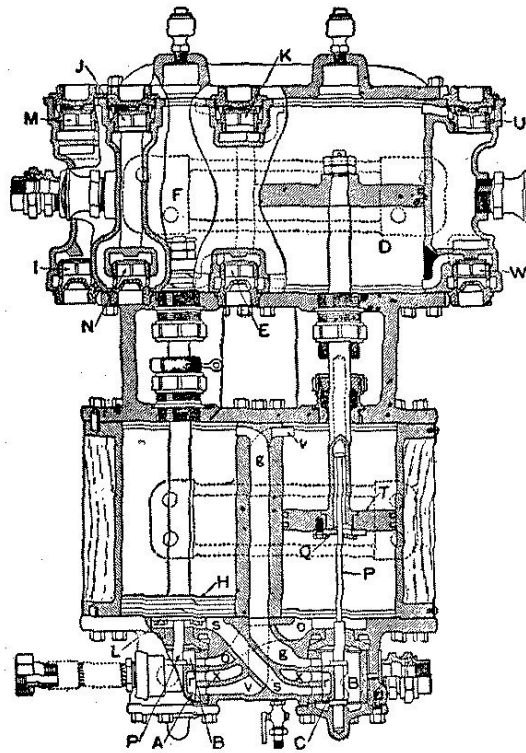
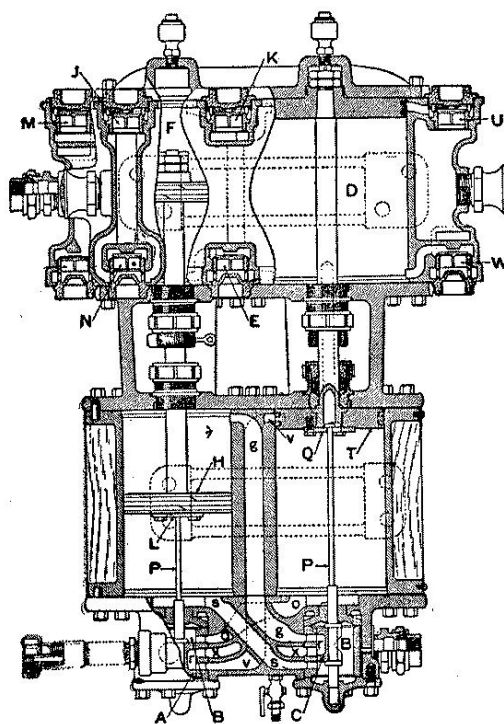

Fig. 19: Low Pressure Piston Moving Upward. High Pressure Piston at Rest.
Fig. 20: High Pressure Piston Moving Upward. Low Pressure Piston at Rest. [Pg 229]
161. Q. What do Figures 19 and 20 represent?
A. Assuming both pistons are at the bottom of their cylinders, when the compressor throttle is opened, live steam will flow to both steam chests "B" (see Fig. 19), and through port "o" to the under side of the piston "T" and through port "g" to the upper side of piston "H". The steam under piston "T" will force it upward, and when it very nearly completes its stroke, the tappet plate "Q" will engage the button on the end of the tappet rod "P", moving the main valve "C" to its upper position. In this position the exhaust cavity "r" in the main valve connects port "g" with the exhaust port "X", thus allowing steam above the piston "H" to escape to the exhaust, at the same time steam is admitted through port "s" to the under side of piston "H", forcing it upward. As this piston very nearly completes its stroke, the tappet plate "L" (see Fig. 20) engages the button on the tappet rod "P", moving the main valve "A" to its upper position. Exhaust cavity "r" now connects port "o", which leads to the lower end of the cylinder at the right, with the exhaust port "X", thus allowing the steam under piston "T" to escape to the exhaust, at the same time steam is admitted through port "V" to the upper end of the cylinder at the right, on top of piston "T", forcing it downward; as it very nearly completes its stroke, the tappet plate "Q" engages the shoulder on the tappet rod "P", moving the main valve "C" to its lower position. The exhaust cavity "r" in the valve now connects port "s" with the exhaust port "X", allowing steam below piston "H" to escape to the exhaust, and at the same time steam is admitted to the top of this piston, forcing it down, thus completing a cycle of the compressor.
A. As the piston in the low pressure cylinder "D" moves up (see Fig. 19), a partial vacuum is formed below it, and air flowing through the strainer passes downward through the air passage, then past the lower receiving valve "W" into the lower end of the cylinder, filling it with air at about atmospheric pressure. In the meantime the air that is being compressed above the piston holds the receiving valve "U" to its seat, and lifts the upper intermediate discharge valve "K" from its seat, allowing the air to pass from the low to the high pressure cylinder "F". The high pressure piston now moving up causes a partial vacuum to be formed below it, and air from the atmosphere flows past the lower receiving valve "N", filling this end of the cylinder with air at about atmospheric pressure. The air above the piston being compressed, holds the upper intermediate valve "K" and receiving valve "J" to their seats and lifts the upper final discharge valve "M", allowing the air to pass to the main reservoir. The action is the same on the down stroke, only air is compressed in the opposite end of the cylinders and the opposite air valves are used.